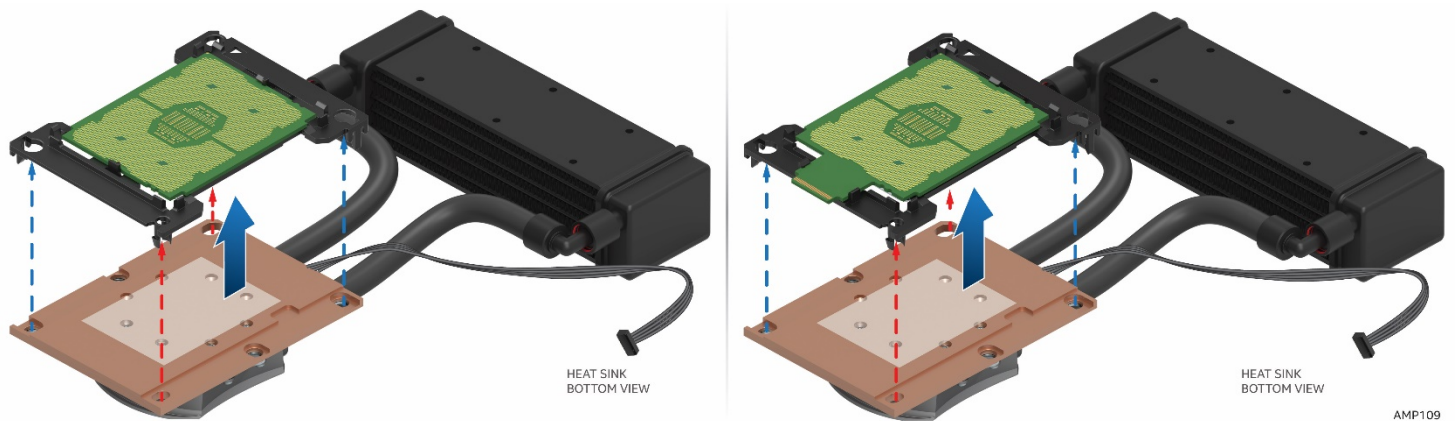

Figure 41. Releasing CPU and Carrier from Cold Plate
4. Turn the LACC and cold plate assembly over as shown in Figure 41